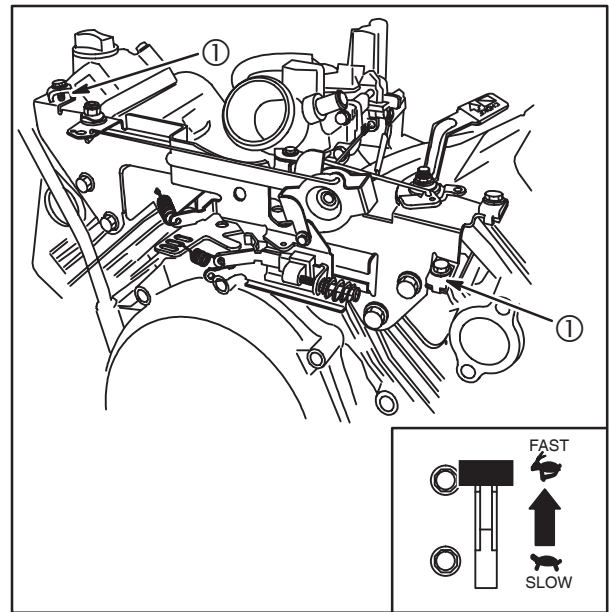

Fig. 48
1. Loosen control casing clamp screw (1) at governor control bracket, **Fig. 48**.
2. Move speed control lever to FAST position (in-set, **Fig. 48**).